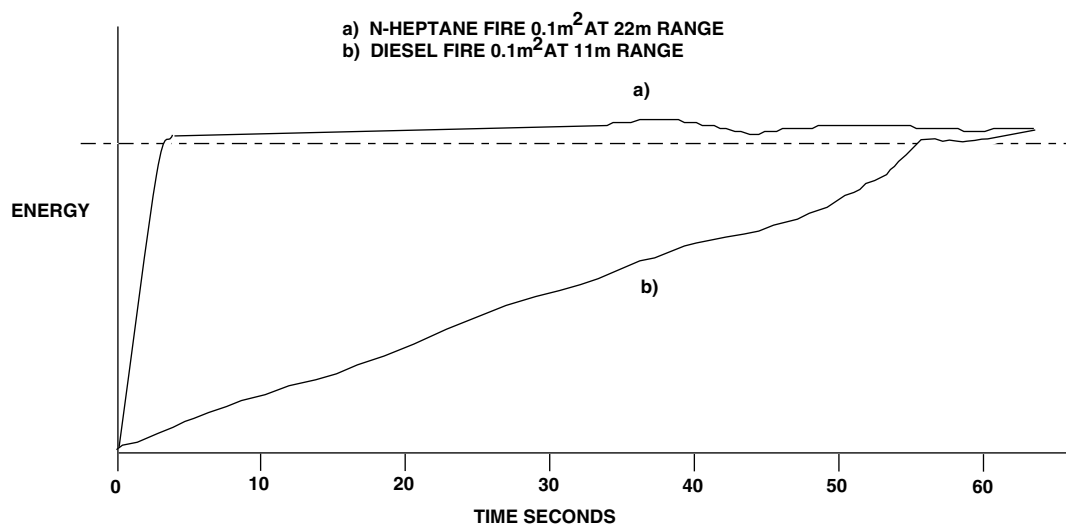

Fig. 4: Typical Response to Fires
Table 1 shows the electrical characteristics, these are taken at 25 °C with an operating voltage of 20 V unless otherwise specified. The alarm load presented to the controller by the detector is shown in Fig. 4.
It is important to think in terms of distance rather than time because of the burning characteristics of different fuels. Fig. 4 shows the typical response of two different fuels which ultimately produce the same signal level. The signal level given by n-heptane quickly reaches its maximum approximately six (6) seconds after ignition. Diesel, being less volatile, takes approximately sixty (60) seconds to reach equilibrium burning state and an alarm is given approximately fifty-five (55) seconds after ignition.